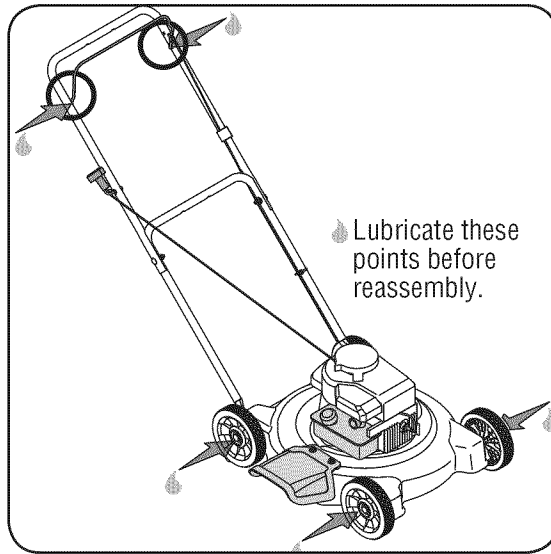

Figure 12
1. Lubricate the pivot points on the blade control handle at least once a season with light oil. The blade control must operate freely in both directions. See Figure 12.